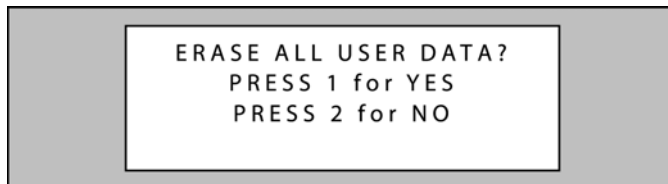

**Figure 8: Clearing Memory**
If the address shown as Current needs to be changed, enter the new address by pressing the numbers on the keypad. The number selected will show in the New line. If you enter the wrong number, simply press CLEAR to erase what has been entered. When you are satisfied with the address entered, press \*. If you have changed the number from what is shown as Current, the controller will automatically clear the memory as it changes the address (see Figure 8).
1. Press 1 to clear the controller's RAM. The LCD will change to show the memory is being cleared (see Figure 8). Once the controller's RAM has been cleared, the unit is ready for use. The LCD will rotate between the Initialization Warning and EntraGuard Default screens until a Total Update from *Doors* has been performed on the unit.